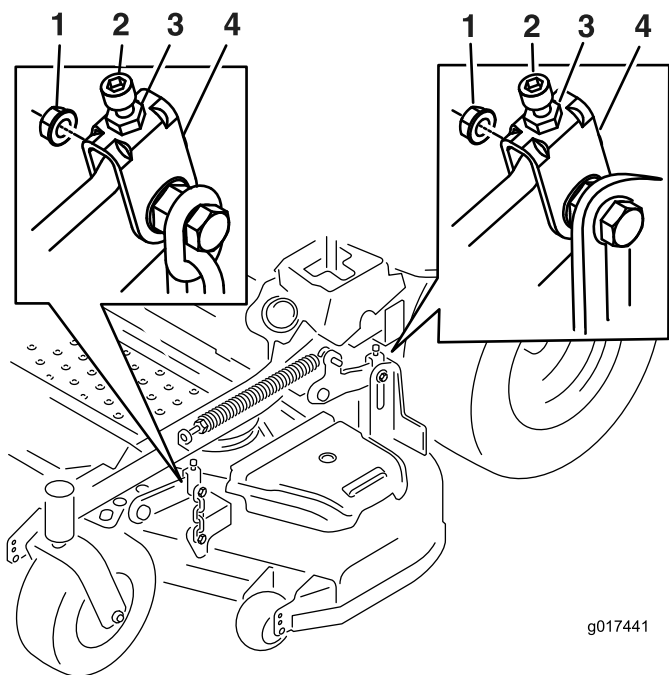

Figure 74
10. If needed, loosen the whizlock nut on the side of the yoke and the jam nut on top (Figure 74).
17. Fine tune the screw adjuster by turning it to get 8.3 mm (3-1/4 inches) height (Figure 74).